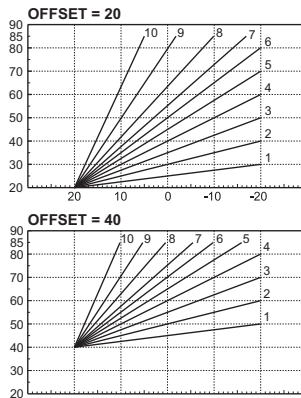

fig. 25- Example of compensation parallel curve offset
**Offset:** Access this sub-menu to access parallel offset of the curves using the buttons  and  **DHW**. Refer to fig. 25 for the characteristics.